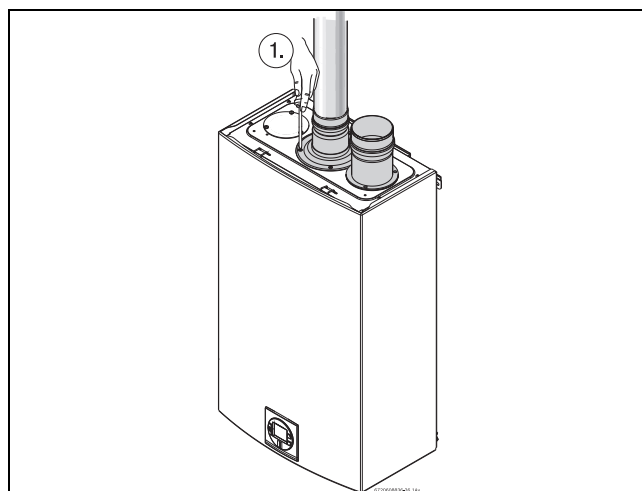

Fig. 20 Exhaust connection
- Attach the flue gas exhaust accessory to the top of the unit fig. 20 (position 1) using the 4 screws and gasket provided, and fully insert vent pipe into the accessory.